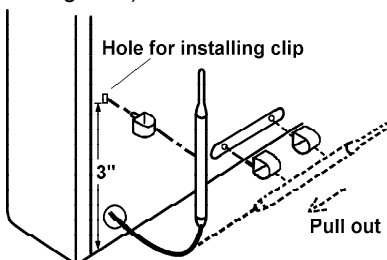

Figure 5 - Moving Thermostat Sensing Bulb
2. Take out the bulb clip from the hardware package and insert it into the square hole and then insert the sensing bulb into the bulb clip (see Figure 5).